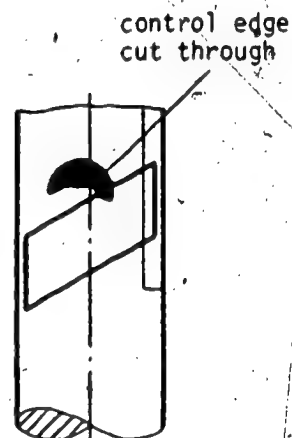

Fig. 1
- material has been cut away (cavitation) in the area of the control edge (Fig. 1);